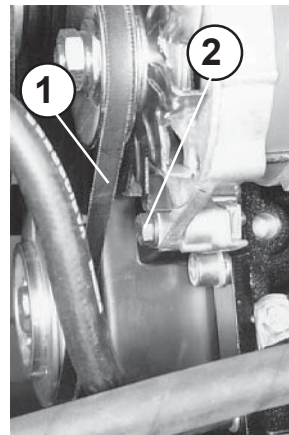

Figure 21
- Push the alternator in the direction of the arrow (figure 21) and tighten the screws (21/22/2,3).
- Turn the alternator in the direction of the arrow (figure 21).